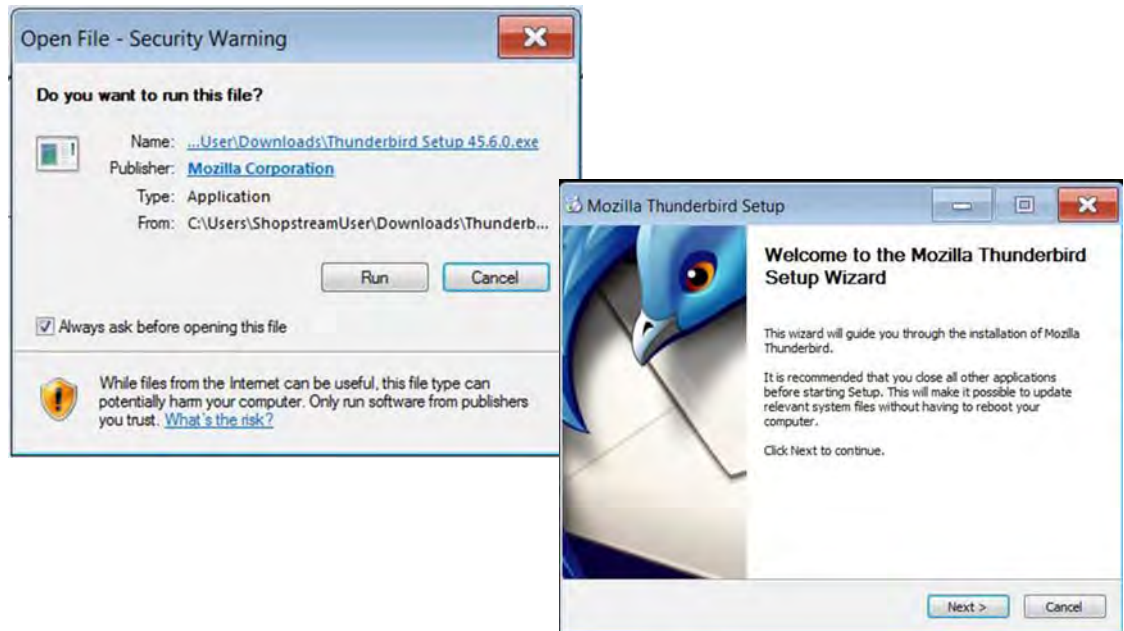

Figure 11-10
2. Install the software following the screen prompts (Figure 11-10).